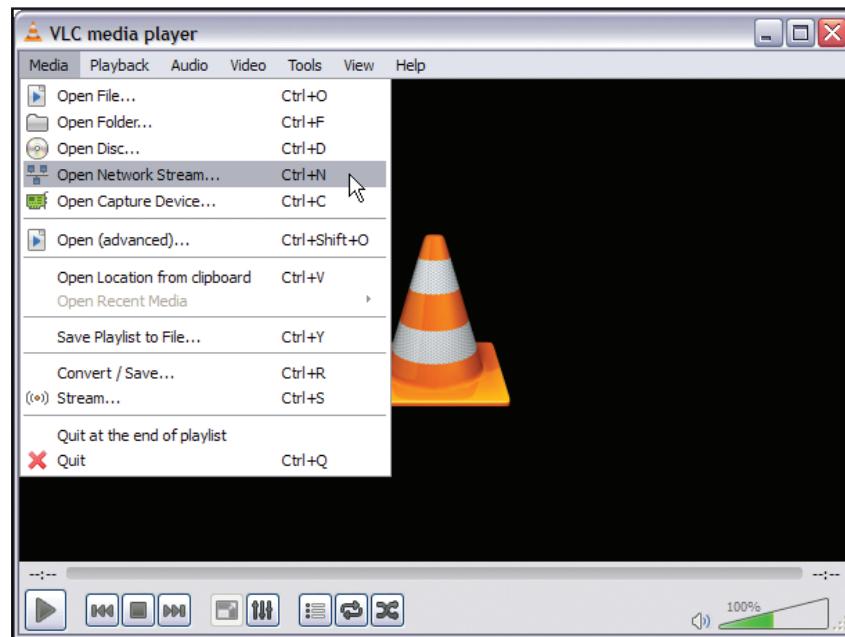

Figure 69. VLC Media Player — Open a Network Stream
4. Select **Media > Open Network Stream** (see figure 69).